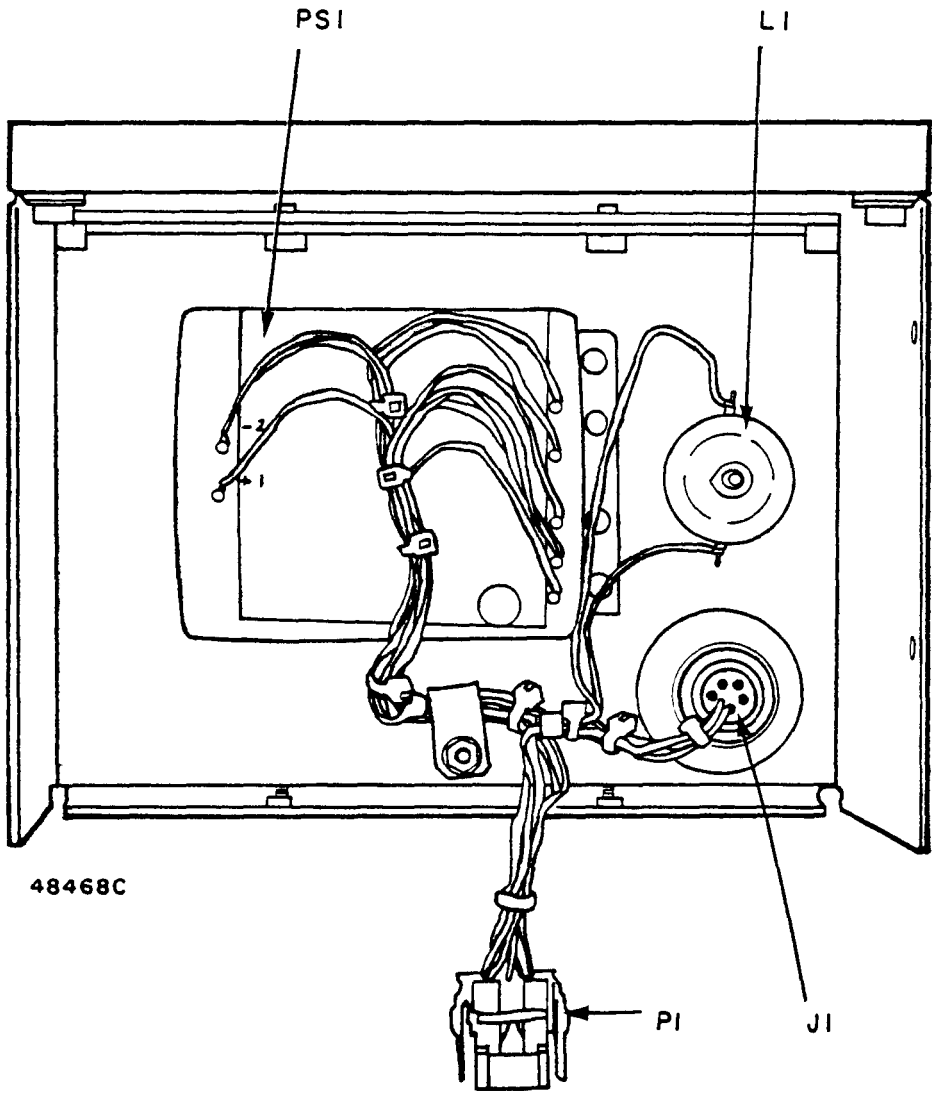

Figure 7. Interior View, Cover and Boards Removed
**5. PARTS LIST** (see figure 7)